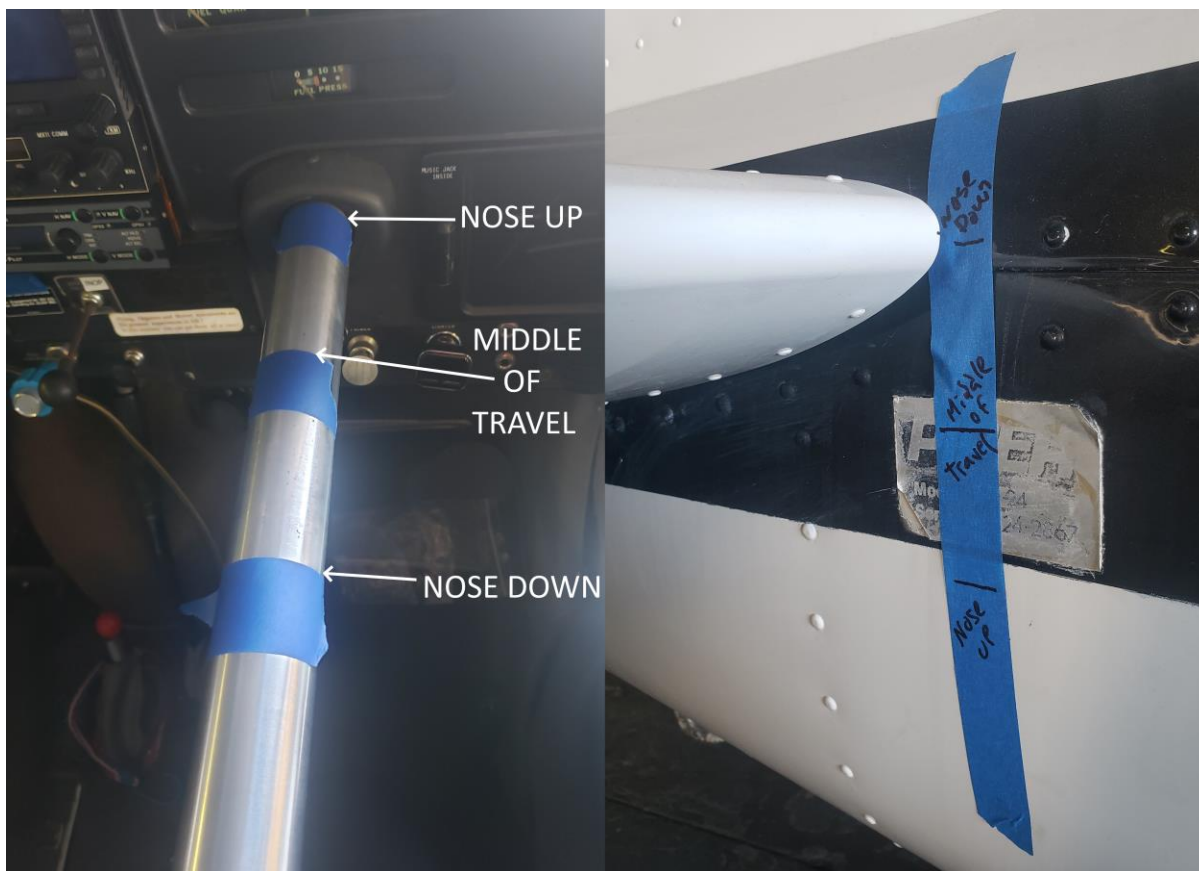

FIGURE 4-6 FINDING PITCH CENTER OF TRAVEL
- 4.2.17 Before the next step is accomplished you must first determine where the **center of pitch cable travel** is (**Not flight neutral**). Two different methods are shown in Figure 4-6.